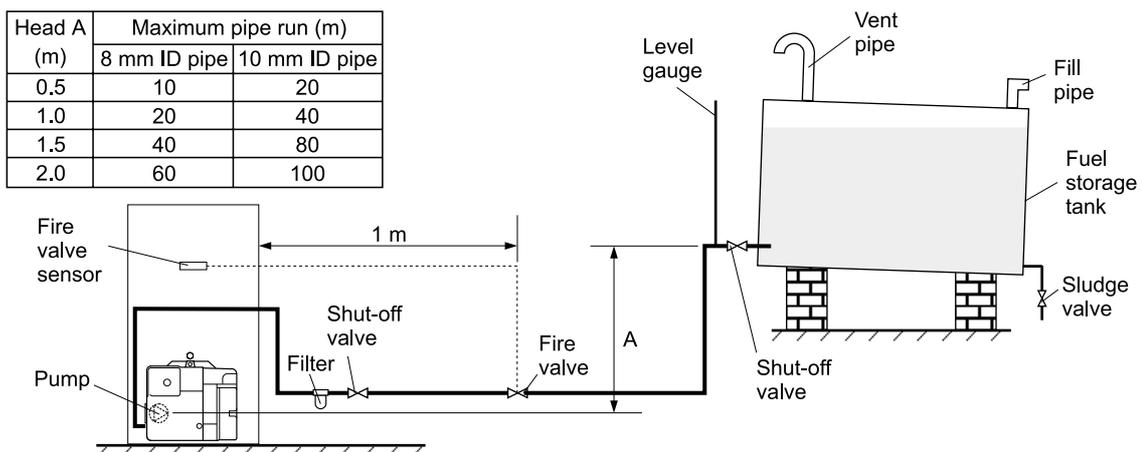

Fig. 2 - Single pipe system
- A flexible fuel line, adaptor and $\frac{1}{4}$ " BSP isolation valve are supplied loose with the boiler for the final connection to the burner. If a two pipe system or Tiger Loop system is used, an additional flexible fuel line and $\frac{3}{8}$ " to $\frac{1}{4}$ " BSP male adaptor are available from Grant Engineering (UK) Limited.
4.4.3 Single pipe system - (See Fig. 2)